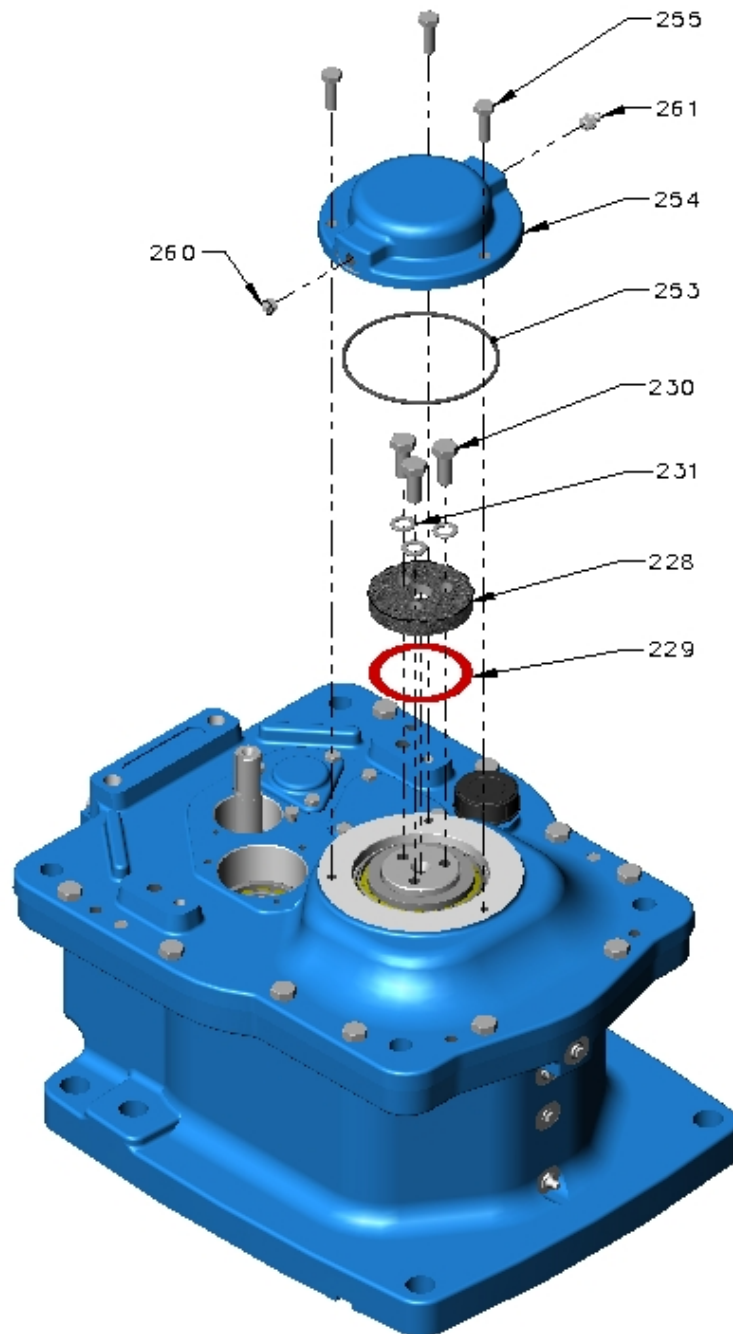

Figure 4 – Output Cap
D. At output shaft, remove the following items (refer Figure 4):